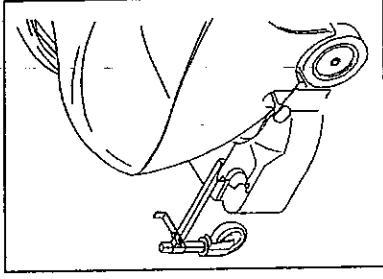

Fig. 9b
- take out the whole wheel supporting rod from the machine (fig. 9b);